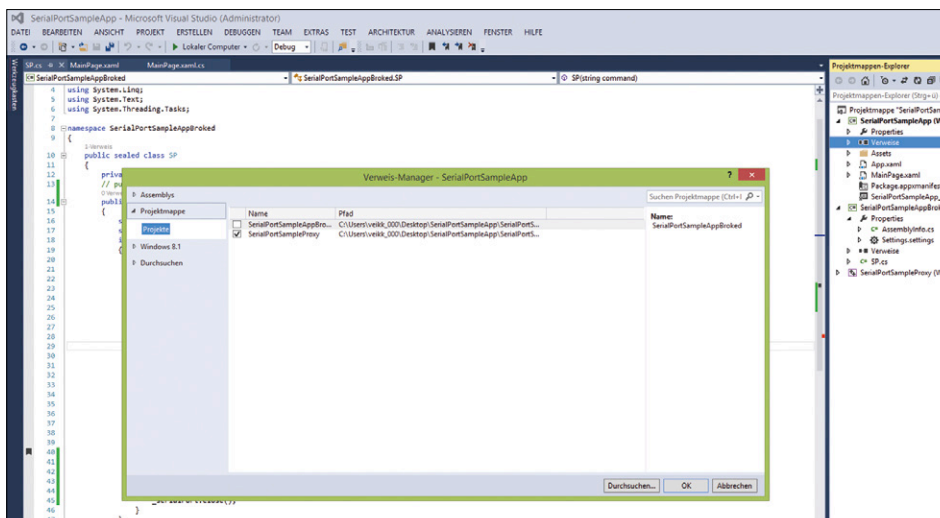

Figure 3. Reference from the app to the proxy project.
3. With all the projects in place we can now set up the necessary references. In the Solution Explorer under 'References' for the proxy project 'SerialPortSampleProxy' add a reference to the 'SerialPortSampleAppBrokred' project. Then, likewise, add a reference from the 'SerialPortSampleApp' project to the proxy project: see **Figure 3**.